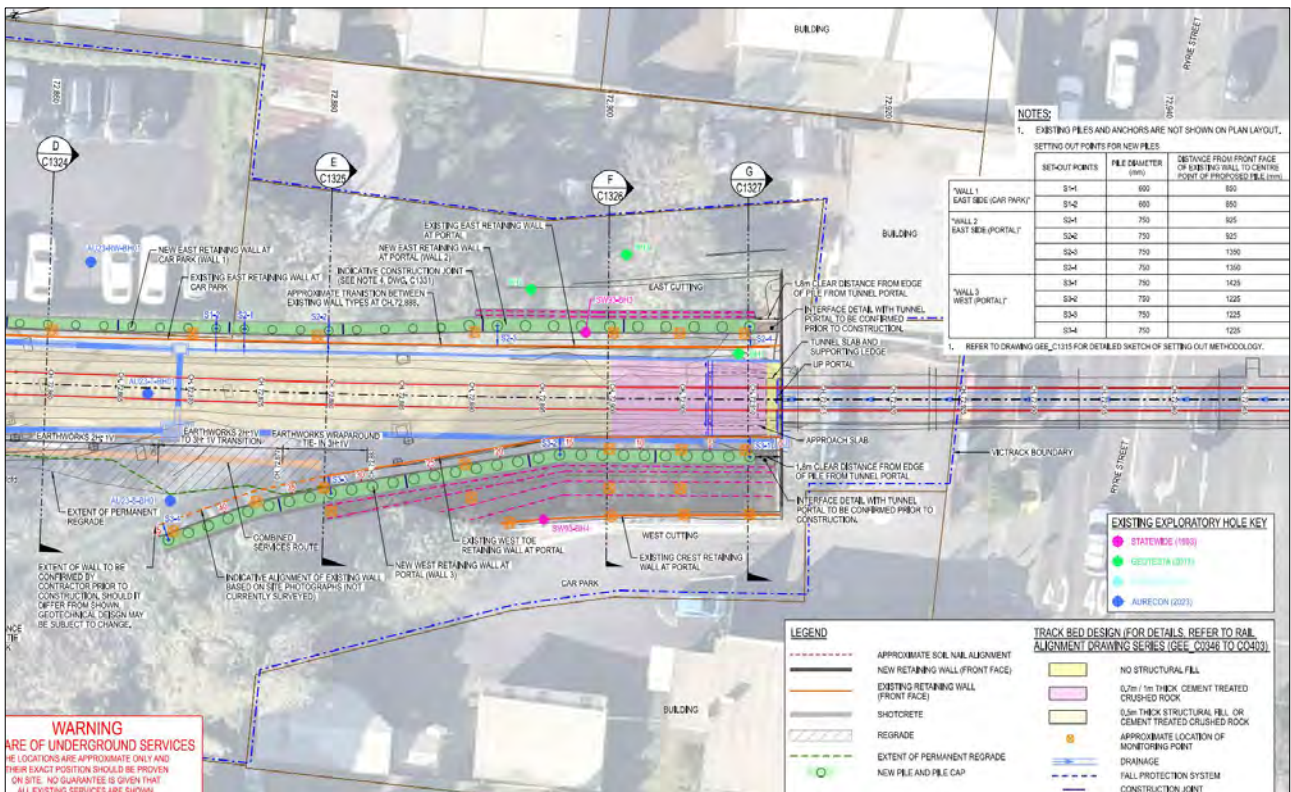
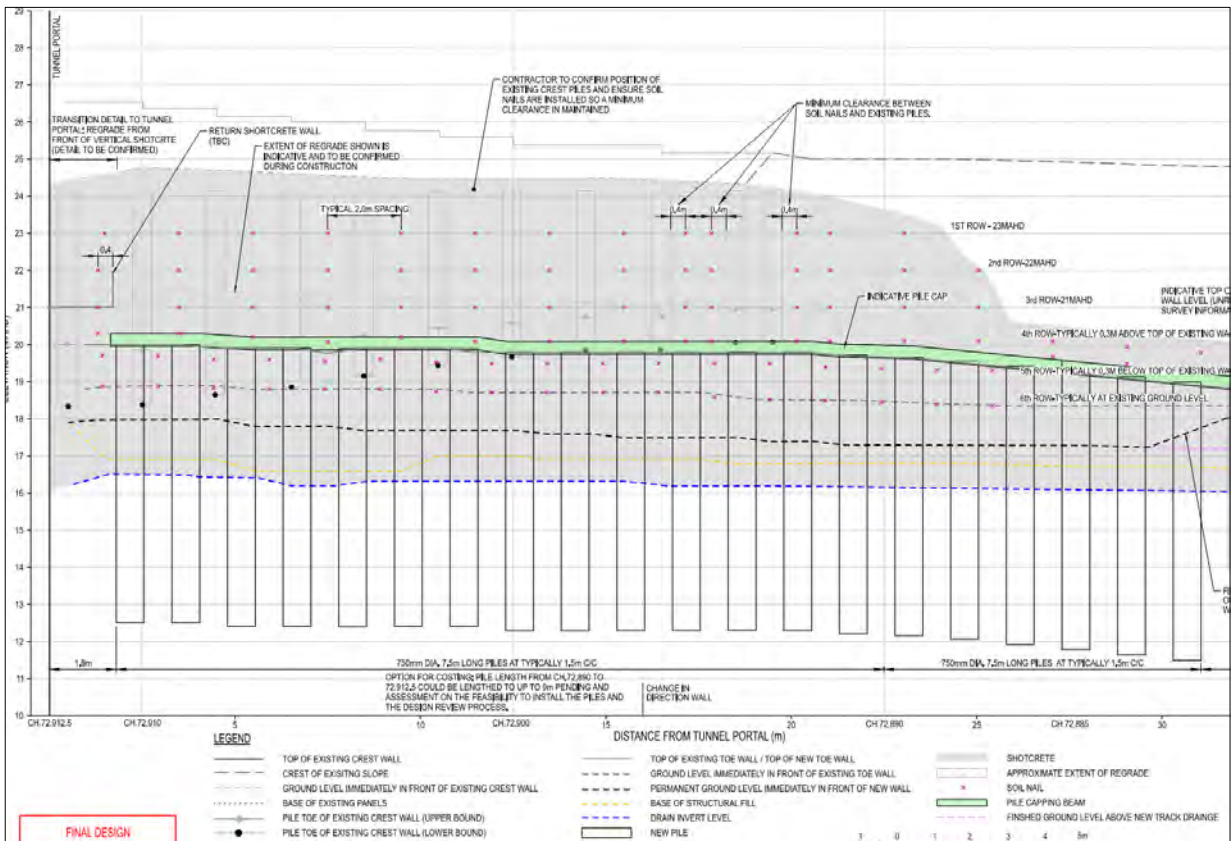

FIGURE 32: PLAN SHOWING RETAINING WORKS AT UP-END PORTAL. (SOURCE: AURECON/VLINE)
FIGURE 34: ELEVATION SHOWING RETAINING WORKS ON WEST APPROACH AT DOWN END PORTAL. (SOURCE: AURECON/VLINE)
- o Install new retaining wall (bored piles 750mm dia) on both sides of approaches adjacent to existing brick portal. Piles spacing is 2000mm on east and 1500 mm typical on west sides (see **Figure 32**);
- o New bored pile retaining walls will be spaced about 1800mm clear from portal face (see **Figure 32 - Figure 34**);